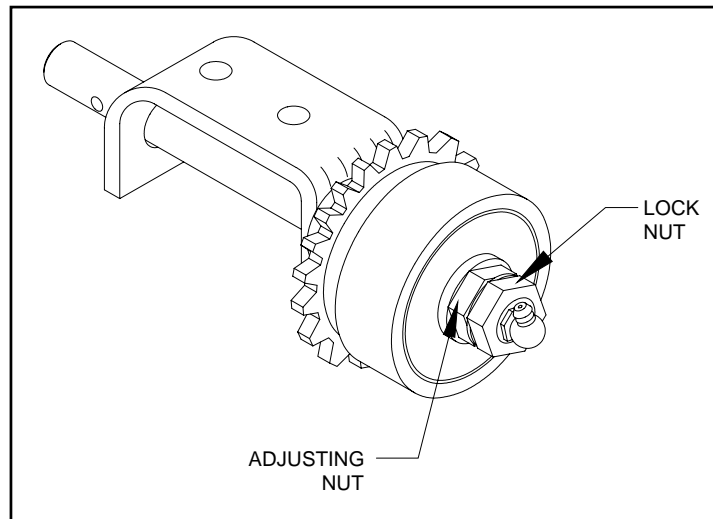

FIGURE 4-18: TORQUE LIMIT CLUTCH
- g. Refer to **Figure 4-18**. Adjust the torque limit clutch if required.